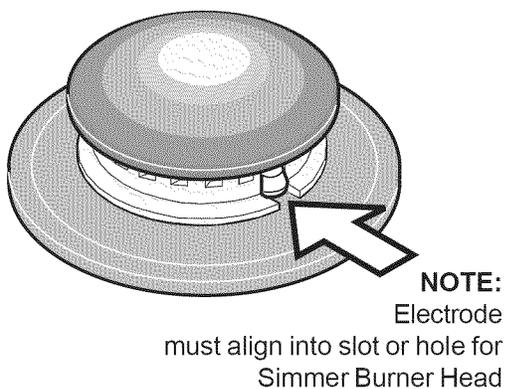

Fig. 5
**NOTE:** The Burner Electrodes must be located properly in slot or holes of each Burner Head (See Fig.5).
- Remove the 7 LP burner orifices using 7mm nutdriver & replace with the 7 original factory installed natural gas orifices at their original locations (See Fig. 5 for locations).